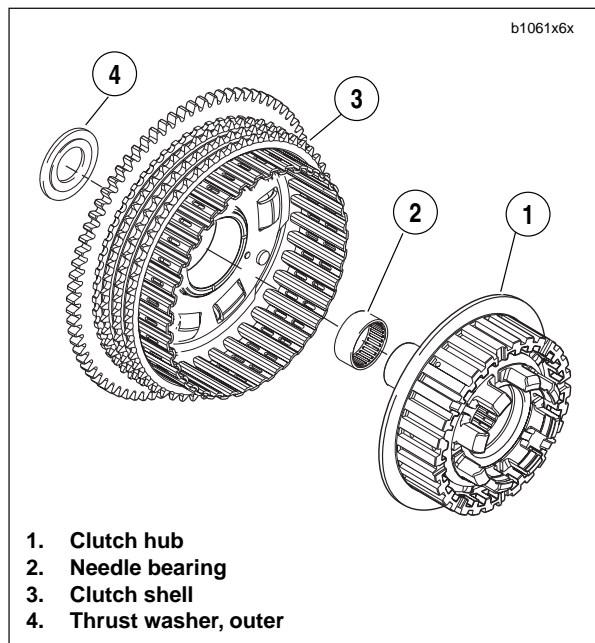
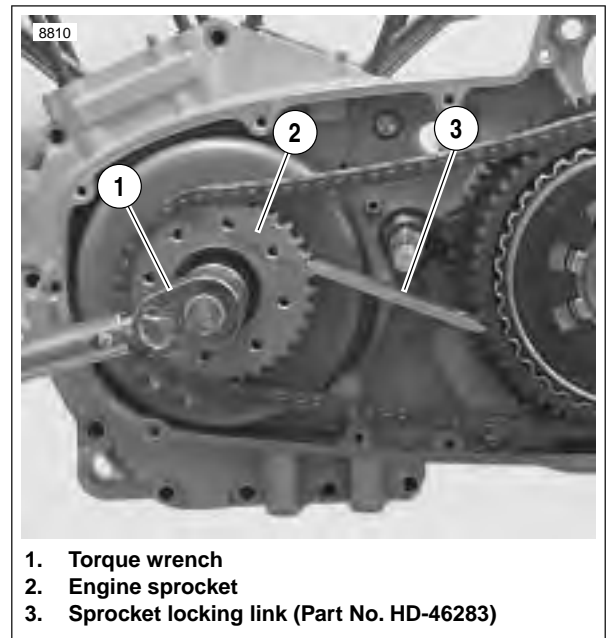

Figure 6-33. Clutch Hub and Shell Assembly
Figure 6-34. Sprocket Locking Link Tool (Part No. HD-38362 for XB9R models and Part No. HD-46283 for XB12R models)
1. See Figure 6-33. Assemble clutch hub (1) and shell (3) by sliding inboard end of clutch hub into shell bearing(2) by hand. No tools are required.
3. Verify that outer thrust washer (4) is installed on transmission shaft.
5. See Figure 6-34. Install the engine sprocket nut.